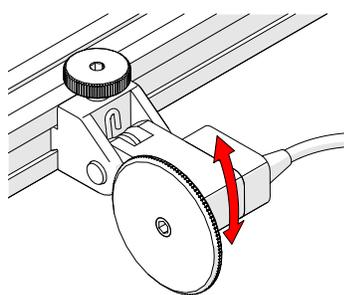

Fig. 32 - Place on scan surface
3. Spring tension maintains encoder contact with the scan surface (*Fig. 32*).